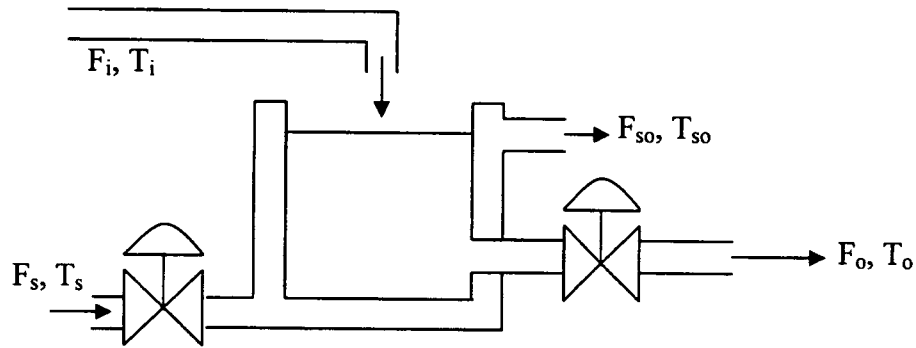

Figure 4. Heated tank.
- iv) The heated tank shown in Figure 4 is known to be subject to disturbances in the feed temperature. What would be the appropriate measured and manipulated variables that would be chosen for: